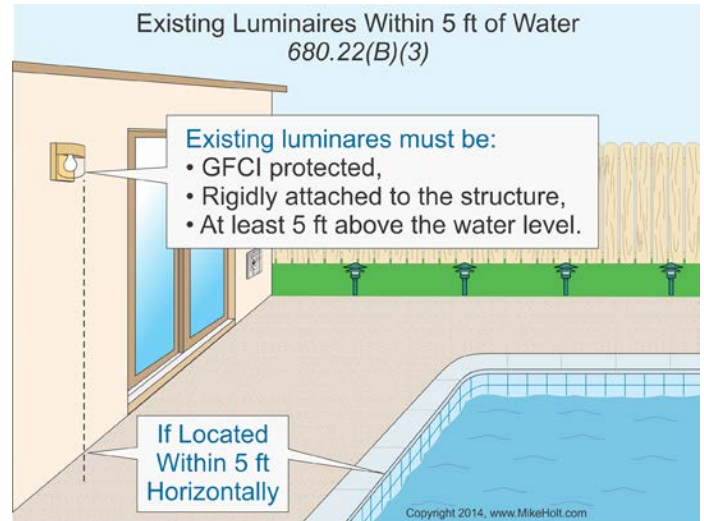

Figure 680-26
(1) New Outdoor Installations. Luminaires and ceiling fans installed above the water, or the area extending within 5 ft horizontally from the inside walls of a permanently installed pool, outdoor spa, or outdoor hot tub, must not be less than 12 ft above the maximum water level.
(3) Existing Installations. Existing luminaires located less than 5 ft horizontally from the inside walls of a permanently installed pool, outdoor spa, or outdoor hot tub must be not less than 5 ft above the surface of the maximum water level, must be rigidly attached to the existing structure, and must be GFCI protected. Figure 680-26
(4) Adjacent Areas. New luminaires installed between 5 ft and 10 ft horizontally from the inside walls of a permanently installed pool, outdoor spa, or outdoor hot tub must be GFCI protected, unless installed not less than 5 ft above the maximum water level and rigidly attached to the existing structure adjacent to or enclosing the permanently installed pool, outdoor spa, or outdoor hot tub.